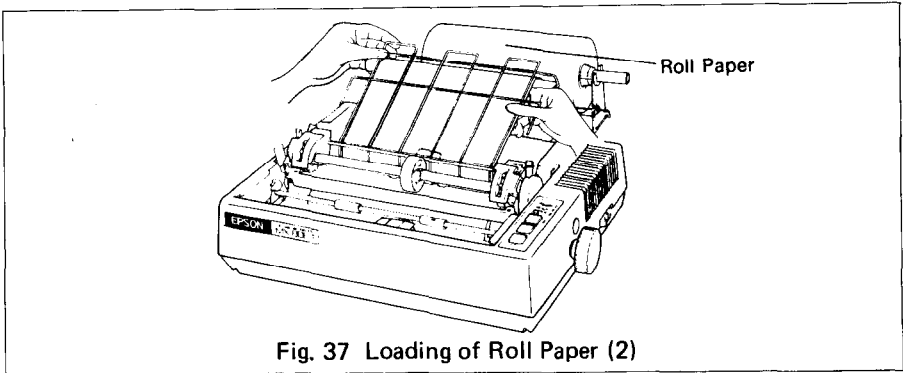

Fig. 37 Loading of Roll Paper (2)
- STEP 6. Push the paper into the insertion slot between the paper guides at the rear part of the printer mechanism. (See Fig. 37.)